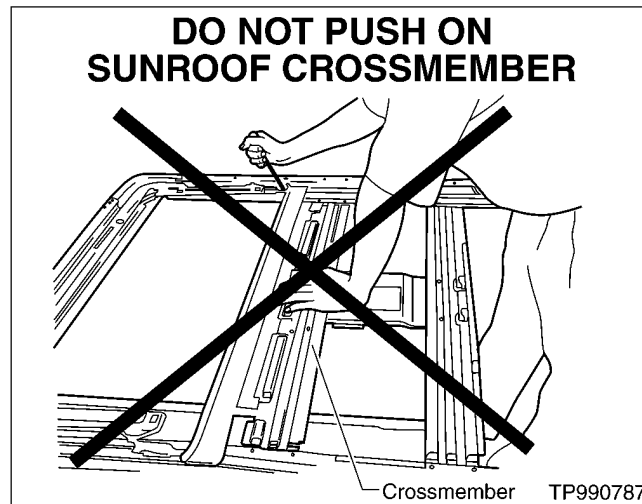

Figure 4
- Do not press on the sunroof rail assembly cross members as they may bend (see Figure 4).